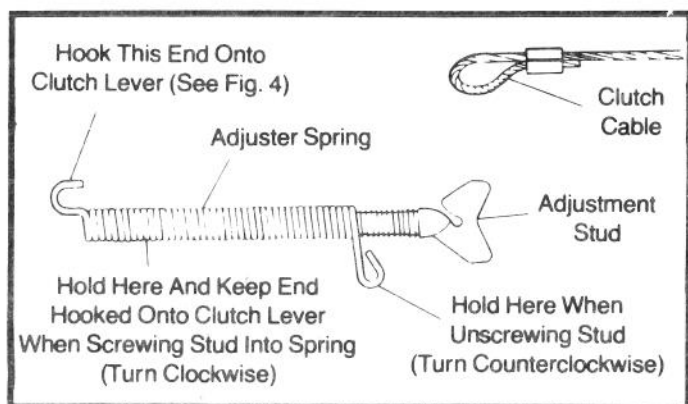

FIGURE 5
2. Nylon adjustment stud is turned 10 full turns into end of adjuster spring, as shown in Fig. 5. (**NOTE:** If readjustment becomes necessary follow instructions in Fig. 5 to turn stud easily.)